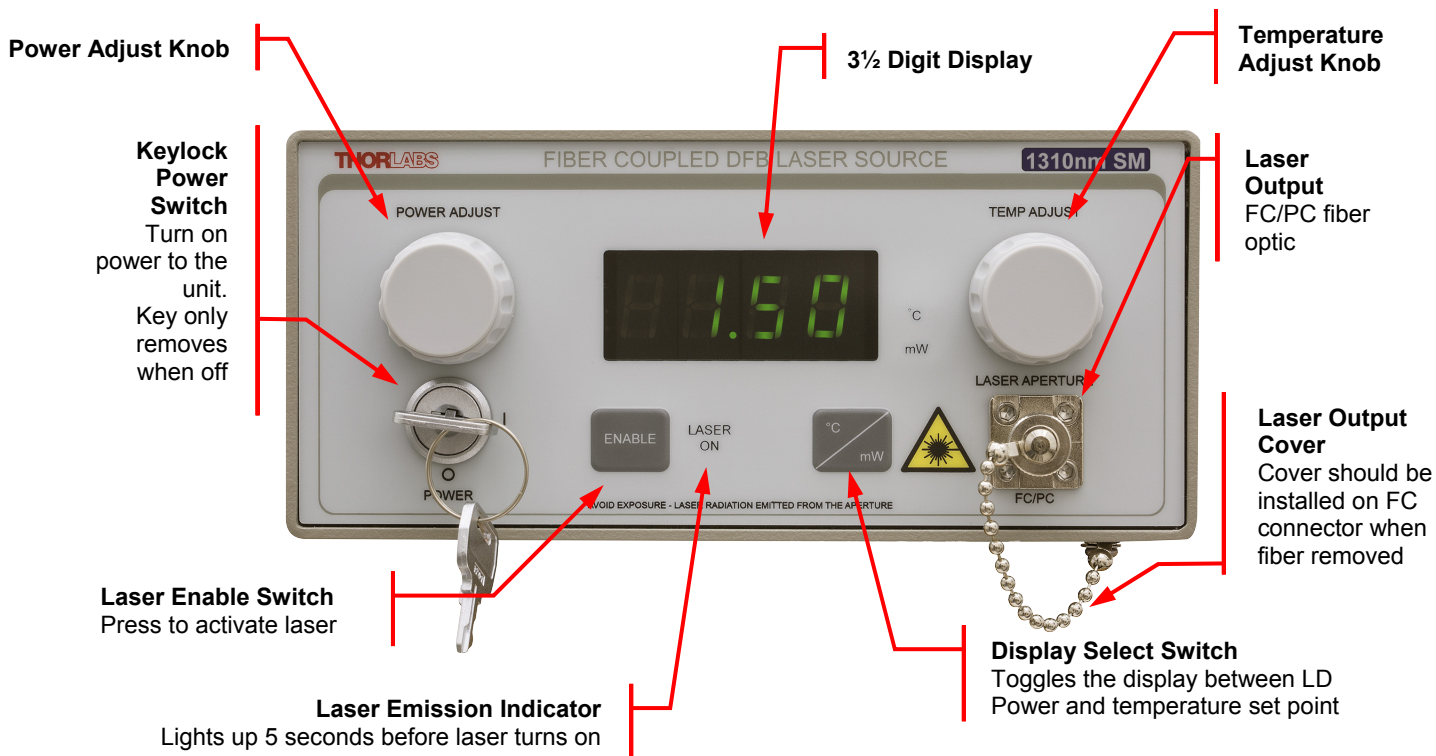

Figure 2 Front Panel of Laser Source
7. Remove the small cap head screw indicating the previous voltage configuration located on the rear panel, above the AC input housing. Place the screw in the threaded hole indicating the new AC input configuration, see **Figure 2**.
The S3 series laser sources are equipped with a remote interlock connector located on the rear panel, see Figure 2. All units have this feature regardless of their FDA and IEC classifications. In order to enable the laser source, a short circuit must be applied across the terminals of the Remote Interlock connector. In practice this connection is made available to allow the user to connect a remote actuated switch to the connector (i.e. an open door indicator). The switch (which must be normally open) has to be closed in order for the unit to be enabled. Once the switch is in an open state the laser source will automatically shutdown. If the switch returns to a closed condition the laser source must be re-enabled at the unit by pressing the ENABLE switch.